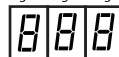

Figure 1: Link element in Hexadecimal value
- \*5 - Refers figure 1 for alarm program configuration